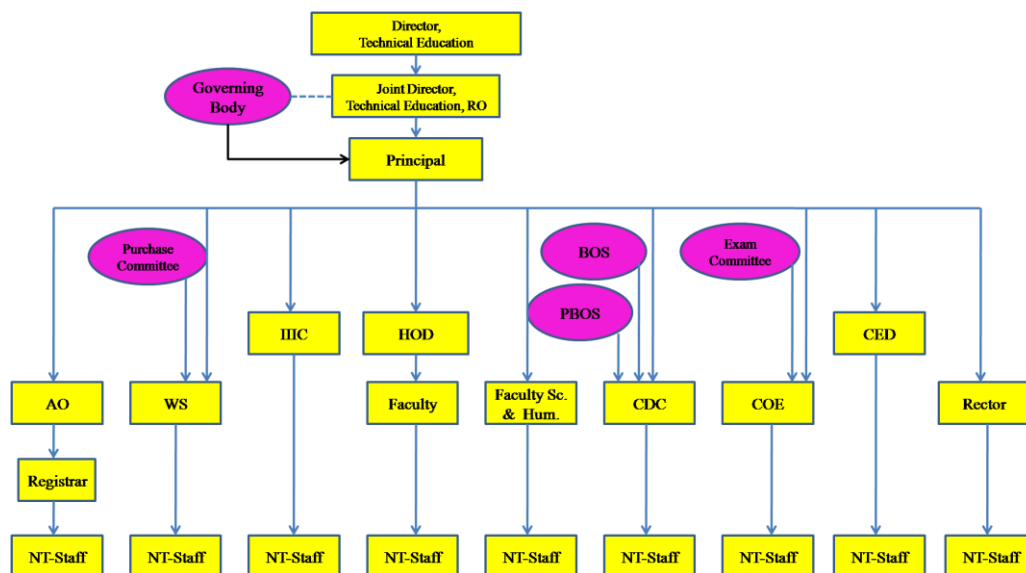

Figure 3.1. Organizational Structure of GPN
In 1995 the institute was conferred with autonomous status by Government of Maharashtra as per Government Resolution No. WBP-1093/(2640) (69)VE-5 Dated- 31st March, 1994, in context of academic matter viz. identification of need of new programs, requisite curriculum design, implementation of self-designed curriculum, assessment, evaluation and certification of students. In nutshell accountability regarding academic matters referred above followed by placement of students in world of work is trusted on the institute. Functional organization of students in world of work is entrusted to the institute. Functional organization parallel to hierarchical organization of institute is constituted for running institute under autonomous status effectively and efficiently. Fig. 3.1 shows the organizational structure of GPN.